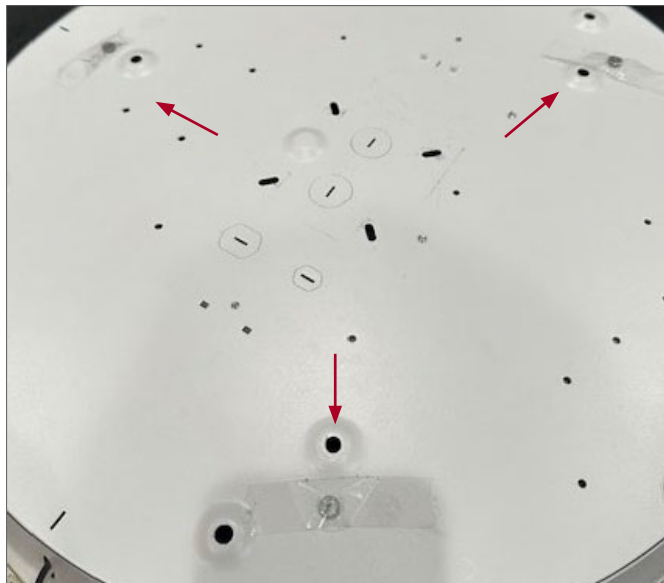
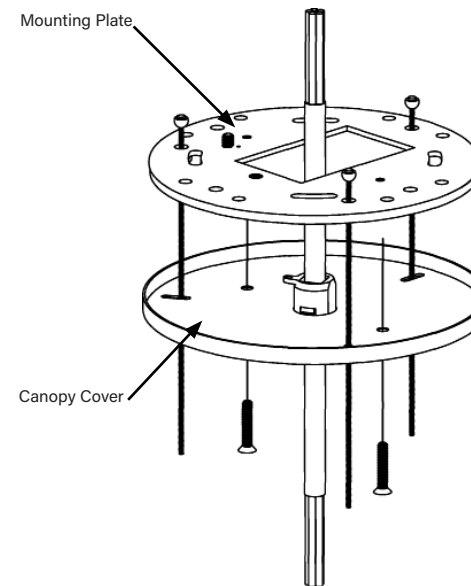

Figure 1.
Figure 2.
1. Locate the three hole pattern on the base and insert the provided 1/4" screws from the inside. (Figure 1.)
2. Thread the gripper from the outside to the 1/4" screw until secured and gripper "arm" is facing toward the center. Repeat for all three (3) screws.
3. Pass each of the provided aircraft cables through the three hole pattern on the mounting plate (figure 2.)
7. Fasten mounting plate to the j-box using at least two screws (by others). (Figure 2.)